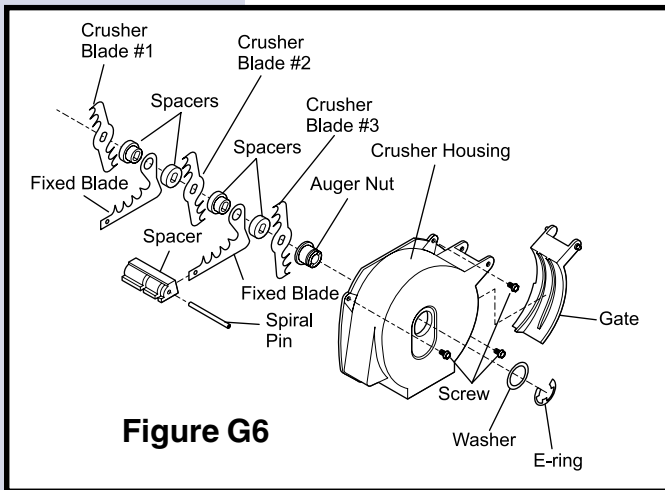

Figure G6
1. Remove Auger Nut to gain access to Crusher Blades. Each blade is separated by Spacer. (See Figure G6.)